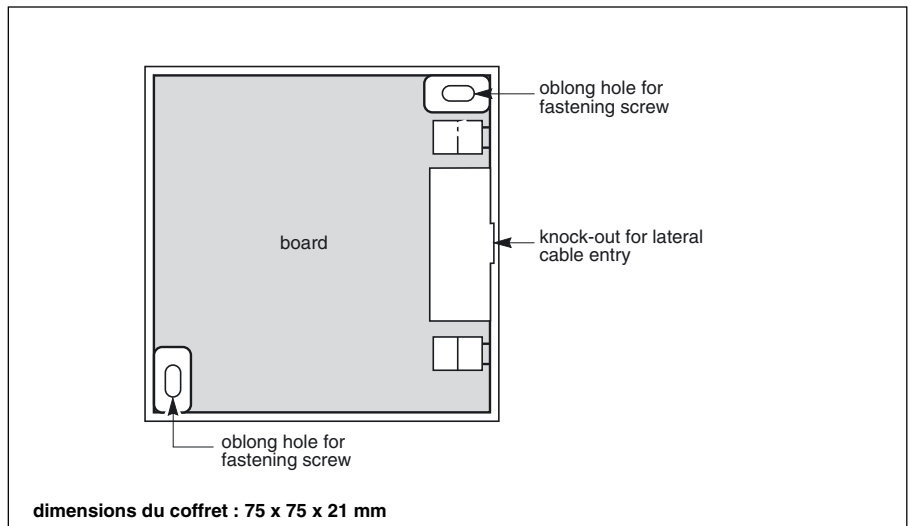

Fig. 34
- ▶ use the holes provided in the base plate to screw the unit to the vertical support (see figure 34);